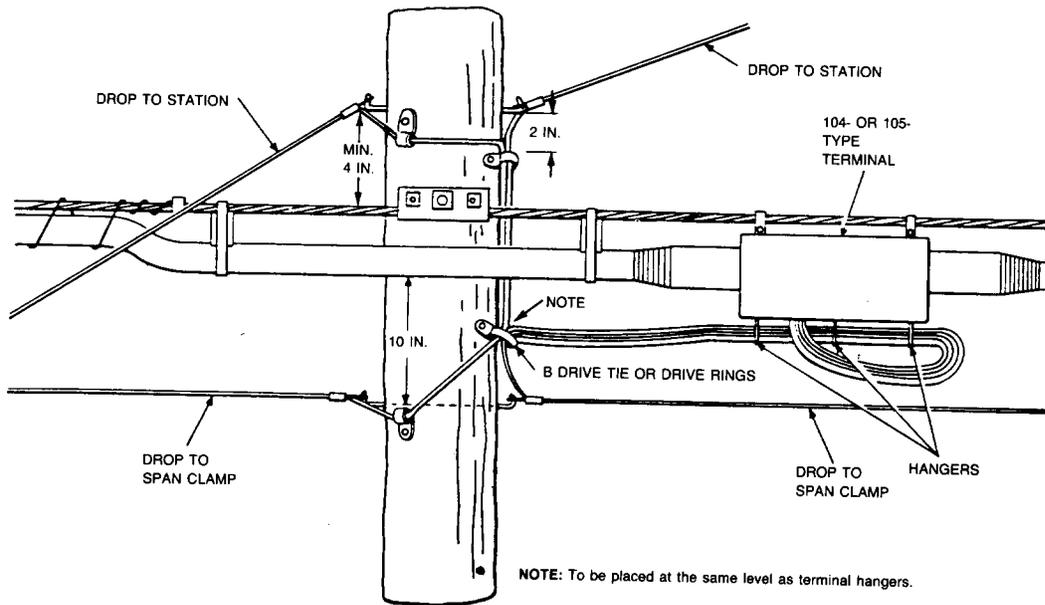

Fig. 7 - Running Drop Wires to 104-105-Type Terminal at Pole
3.10 Refer to Fig. 7, 8, and 9 for typical arrangements of drop wires at 104- or 105-type cable terminals on aerial cable.